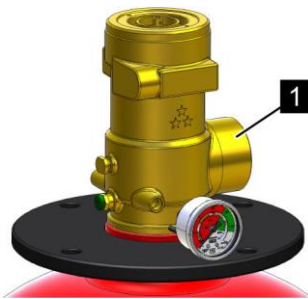

Fig. 150: Fit the anti-recoil cap
17. ➤ Fit the anti-recoil cap on the valve outlet (Fig. 150/1).